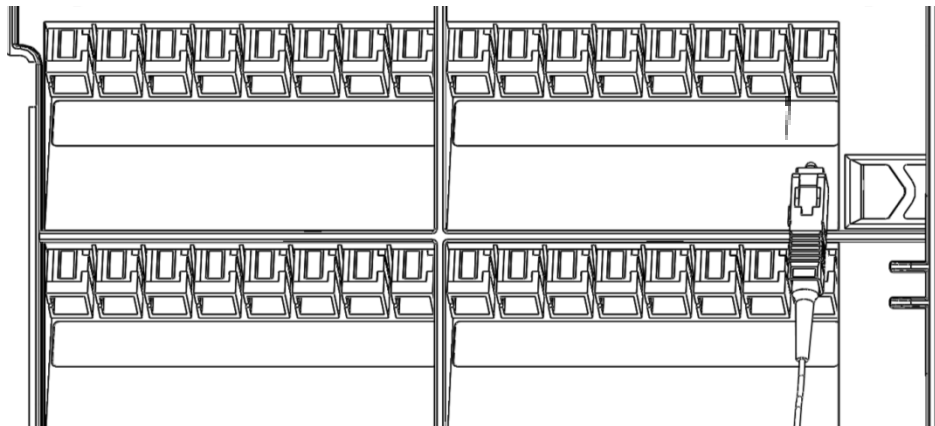

Figure 29
- 1.7.2 Insert the connectors into the adapters on the rear of the panel (Fig.29);